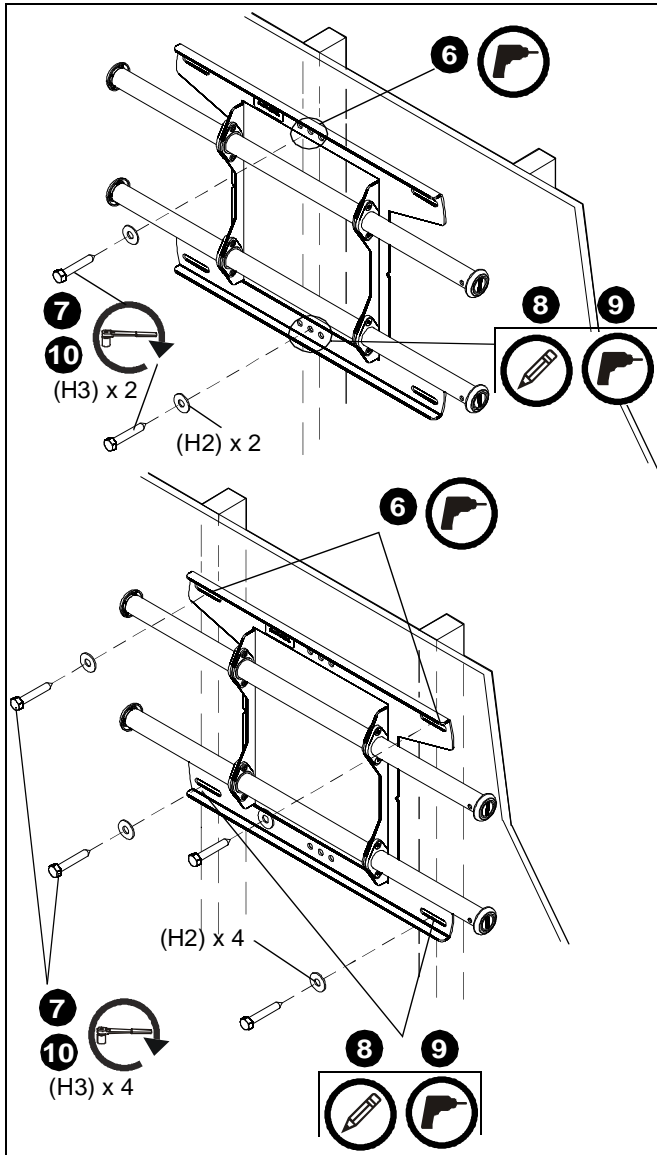

Figure 3
7. Use two 5/16 x 2-1/2" lag bolts (H3) and two 5/16" flat washers (H2) [one lag bolt and washer for single stud installation] to attach top of mount to wall. (See Figure 3)
8. Mark the attachment points for the lower mounting slots, making sure the attachment points are located on the studs. (See Figure 3)
9. Drill 7/32" pilot holes at markings for lower mounting holes. (See Figure 3)
10. Use two 5/16 x 2-1/2" lag bolts (H3) and two 5/16" flat washers (H2) [one lag bolt and washer for single stud installation] to attach the mount to the wall through the lower mounting holes. (See Figure 3)